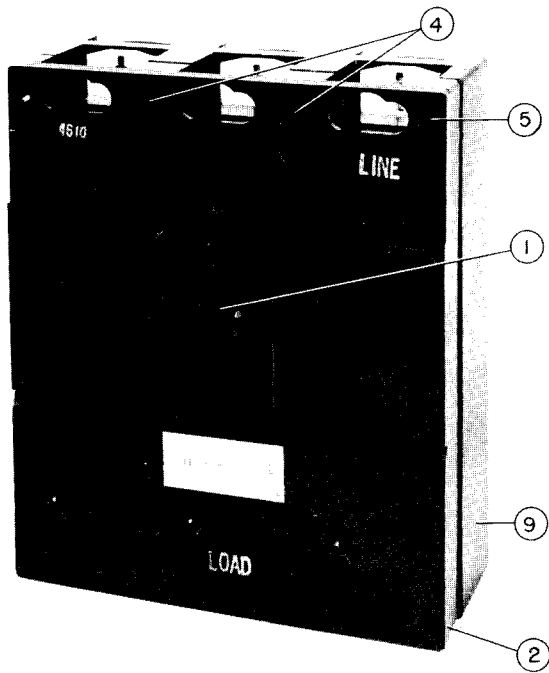

Fig. 1 — Front View of Circuit Breaker
2. Remove four breaker mounting screws (4, Figs. 1 and 3); breaker is now free of its mounting.
1. Loosen four breaker mounting screws (4, Fig. 1) and pull circuit breaker forward or away from the mounting surface.